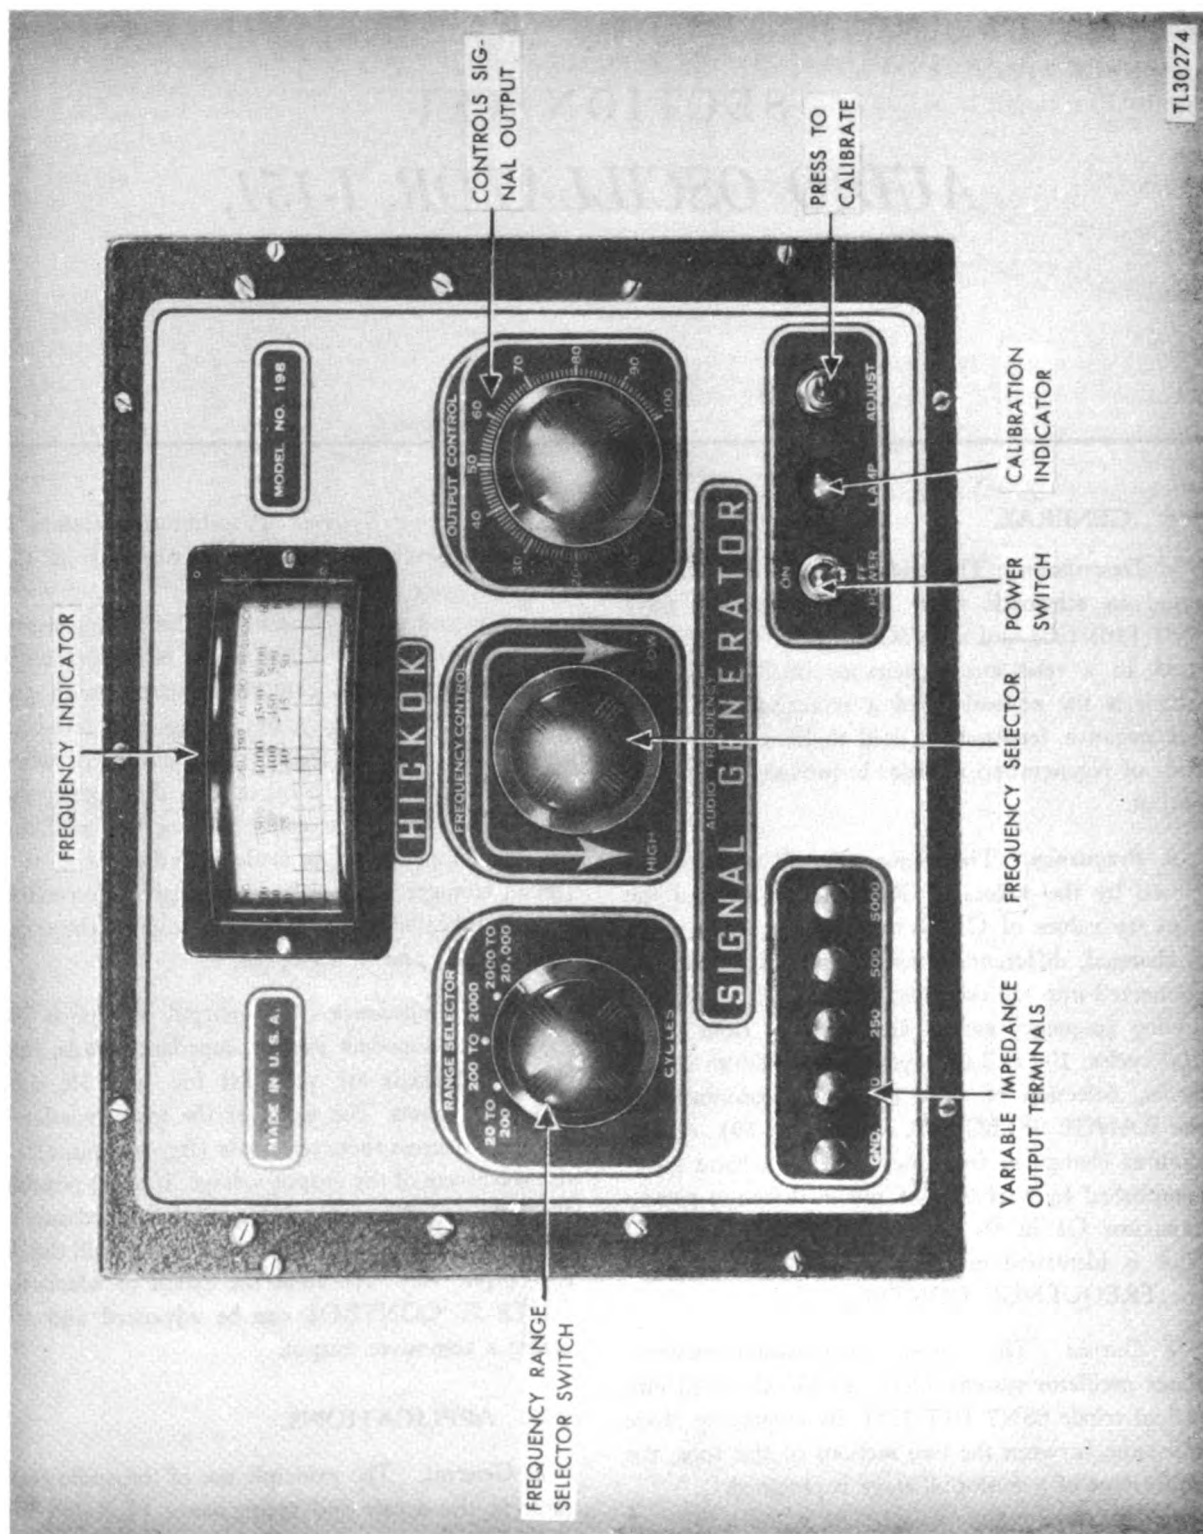

Figure 39. Audio Oscillator I-151, Hickok model 198, panel view.
b. Frequency. The frequency oscillation is determined by the values of R11, R12, R13 and the capacity values of C1. When the frequency range is changed, different values of fixed resistance are connected into the oscillating system. The three following frequency ranges are available: from 20 to 200 cycles; 200 to 2,000 cycles; and 2,000 to 29,000 cycles. Selection of these ranges is determined by the RANGE SELECTOR switch (fig. 39). A continuous change in frequency over each band is accomplished by variation of the dual-section tuning capacitor C1 in the schematic diagram (fig. 42). This is identified in the photograph (fig. 39) as the FREQUENCY CONTROL.
f. Load Impedance. The output system is designed to accommodate various impedance loads, thus output terminals are provided for 10, 250, 500, and 5,000 ohms. The value of the load impedance connected across these terminals (fig. 39) can affect the waveform of the output voltage. If at all possible, the load impedance should equal the impedance of the output transformer. A poor mismatch will distort the output wave and limit the extent to which the OUTPUT CONTROL can be advanced and still retain a sine-wave output.
(1) Rotate the dial past the lowest frequency as far as it will go. The hairline on the dial lens should line up with the red line on the dial proper. If this condition is satisfied, it may be necessary to make an adjustment (subpar. (2) below).
(2) It is not expedient to make any adjustment to correct errors in calibration if the existing calibration is found to be within 2 percent or within one cycle at the 60-cycle-per-second setting on the dial. If, however, an error in excess of this amount is found, set the dial to read exactly 180 cycles. Depress the ADJUST button. With this button depressed, use a screwdriver to vary the correction control which is accessible through an opening in the left side of the case, until a zero beat is indicated on the neon LAMP. This is a delicate adjustment because the oscillator frequency is equivalent to the third harmonic of the line-supply frequency.
l. Adjust the output voltage by means of the OUTPUT CONTROL illustrated in figure 39.